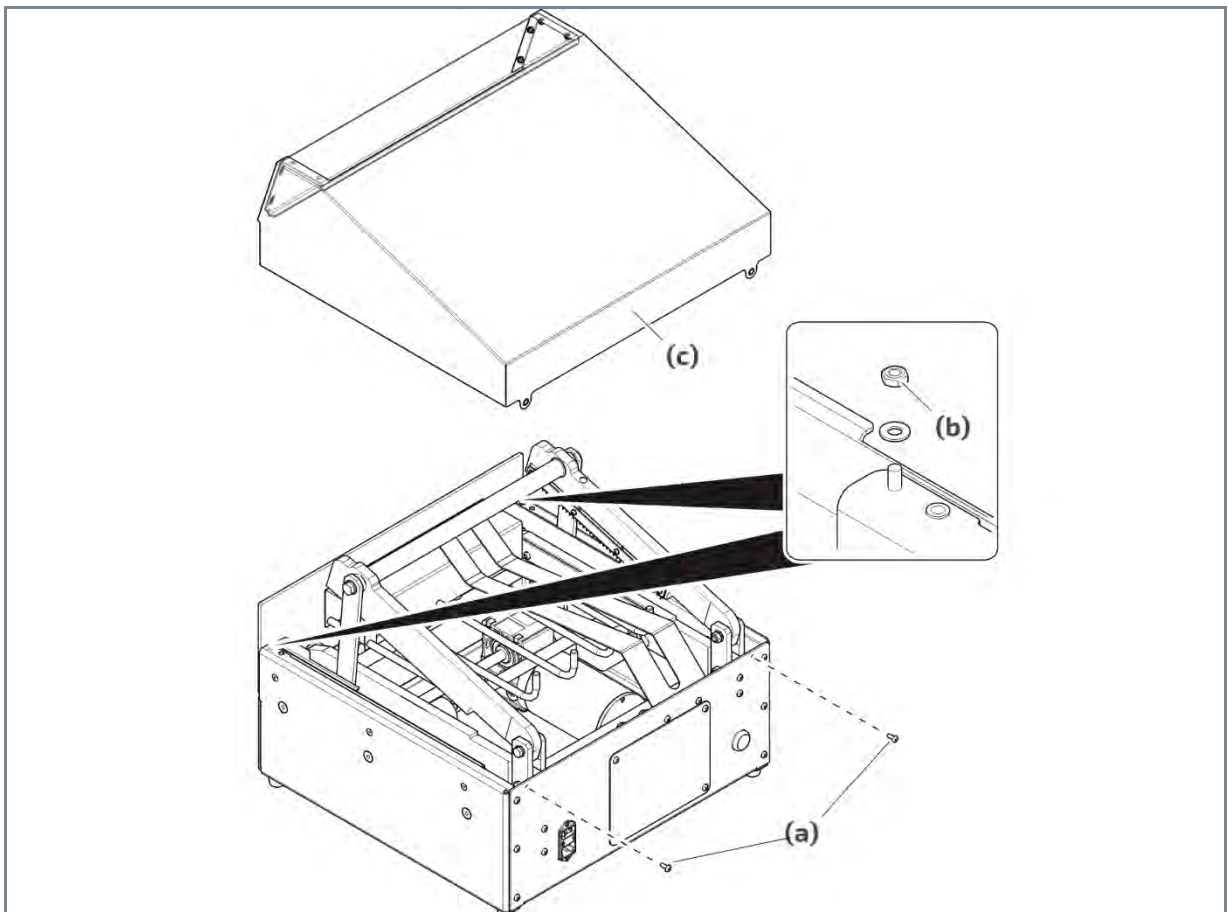

Fig. 11 Cleaning the interior
2. Remove the two M5 hexagon socket screws **Fig. 11 (a)** on the back of the machine.
3. Open the drawer and remove the two M4 hexagon nuts, including the washers, **Fig. 11 (b)**.
4. Remove the housing cover **Fig. 11 (c)**.
6. Place the housing cover **Fig. 11 (c)** on the housing and screw it on with the two M4 hexagon nuts, including the washers, **Fig. 11 (b)** and the two M5 hexagon socket screws **Fig. 11 (a)** on the back of the machine.